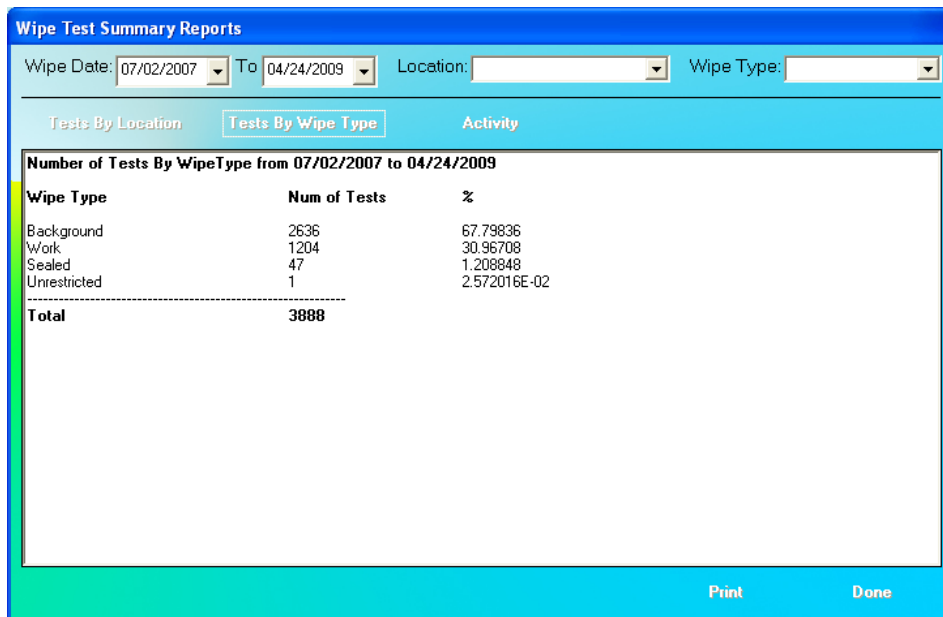

Figure 8-39 Summary Report – Tests By Wipe Type
– Clicking this button will display a list showing the number of tests by wipe type for the set criteria. The data is sorted by the total number of tests performed per Wipe Type. A percentage is given for the number of tests performed for each wipe type versus the overall total number of tests performed. Reference Figure 8-39 Summary Report – Tests By Wipe Type.